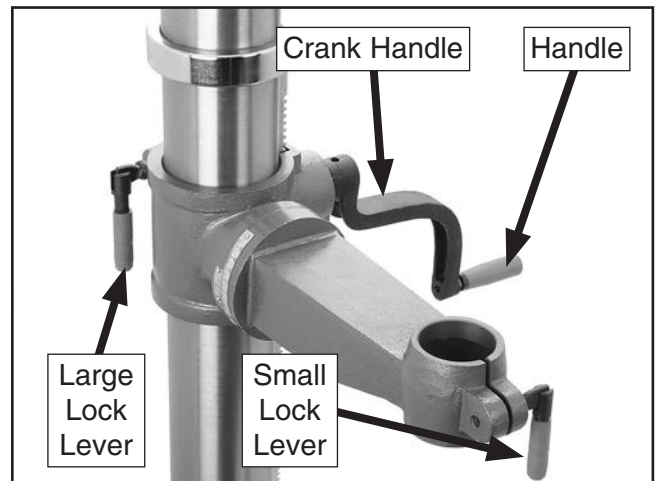

Figure 19. Handles and lock levers installed.
- Thread small lock lever into front part of table support assembly approximately three turns, for now. The assembly should match what is shown in **Figure 19**.